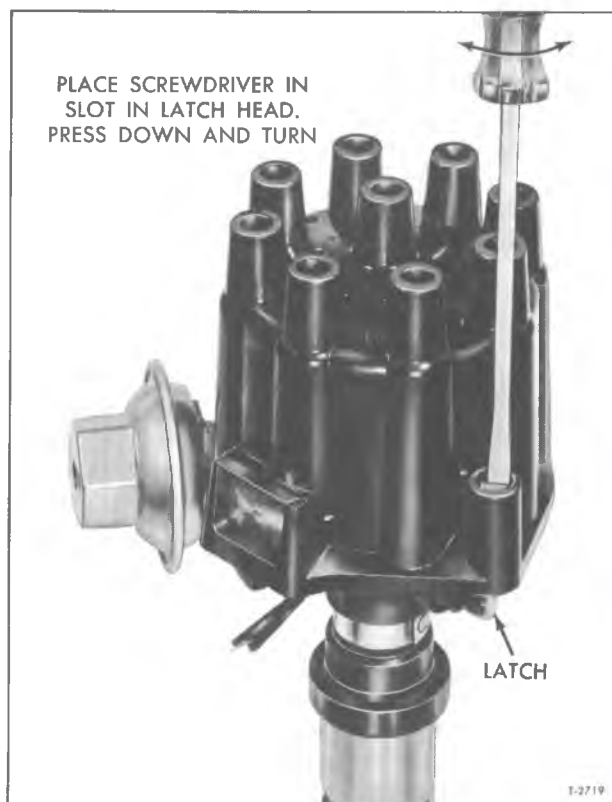

Figure 7—Disengaging Distributor Cap Latches (V8 Engine) (Typical)
1. Place a screwdriver in the slot head of each distributor cap latch, then press down and turn  $\frac{1}{4}$  turn in either direction to release cap (fig. 7). Remove cap and place it out of work area.